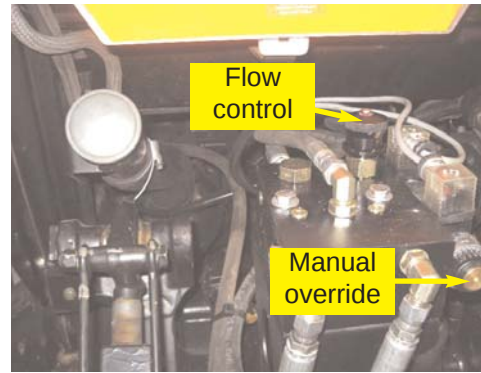

Figure 9. Automated steering flow control knob and manual override button.
- Turn counter-clockwise to increase flow.(Figure 9.)
- e. The coils on the automated steering block have manual push button overrides. Push either manual override to move the steering wheels all the way to one extreme. (Figure 9.)